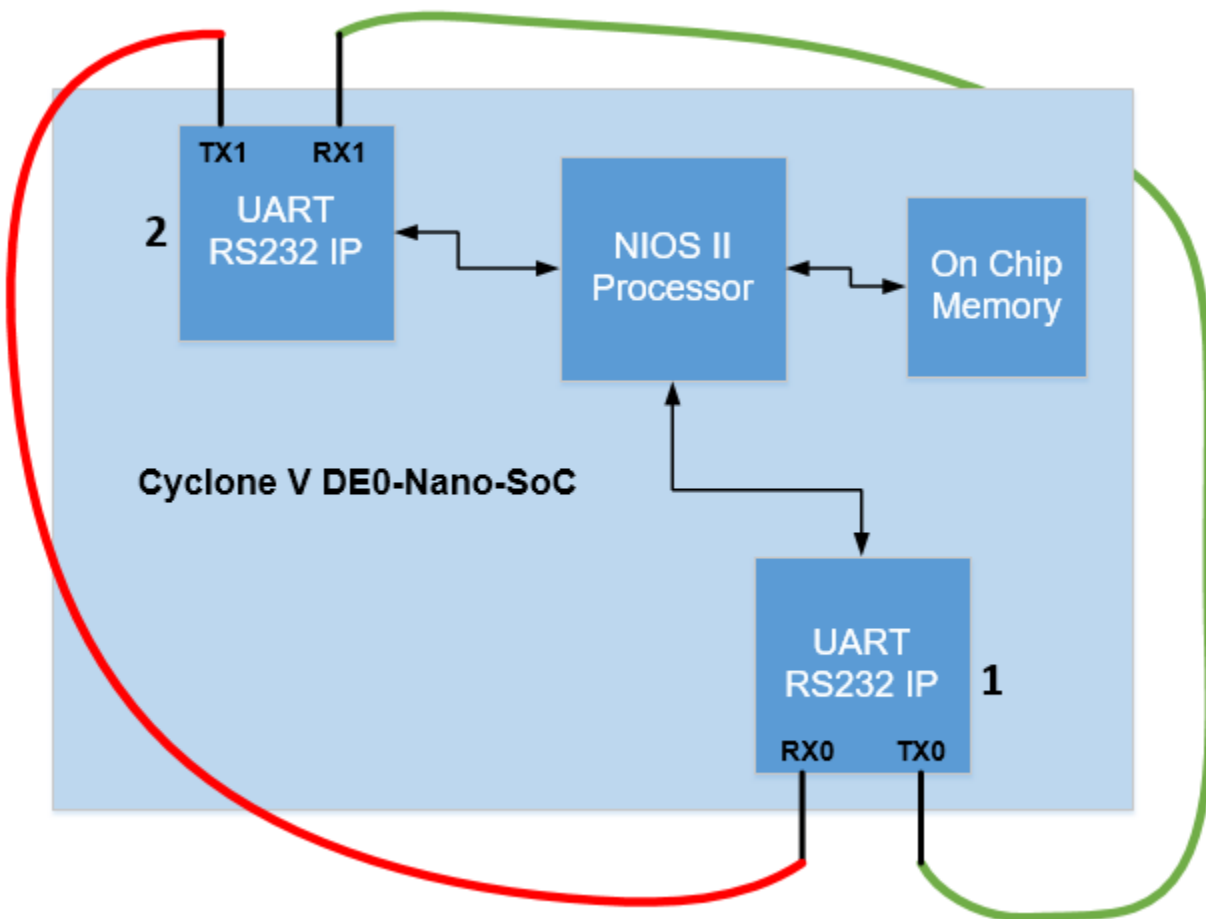
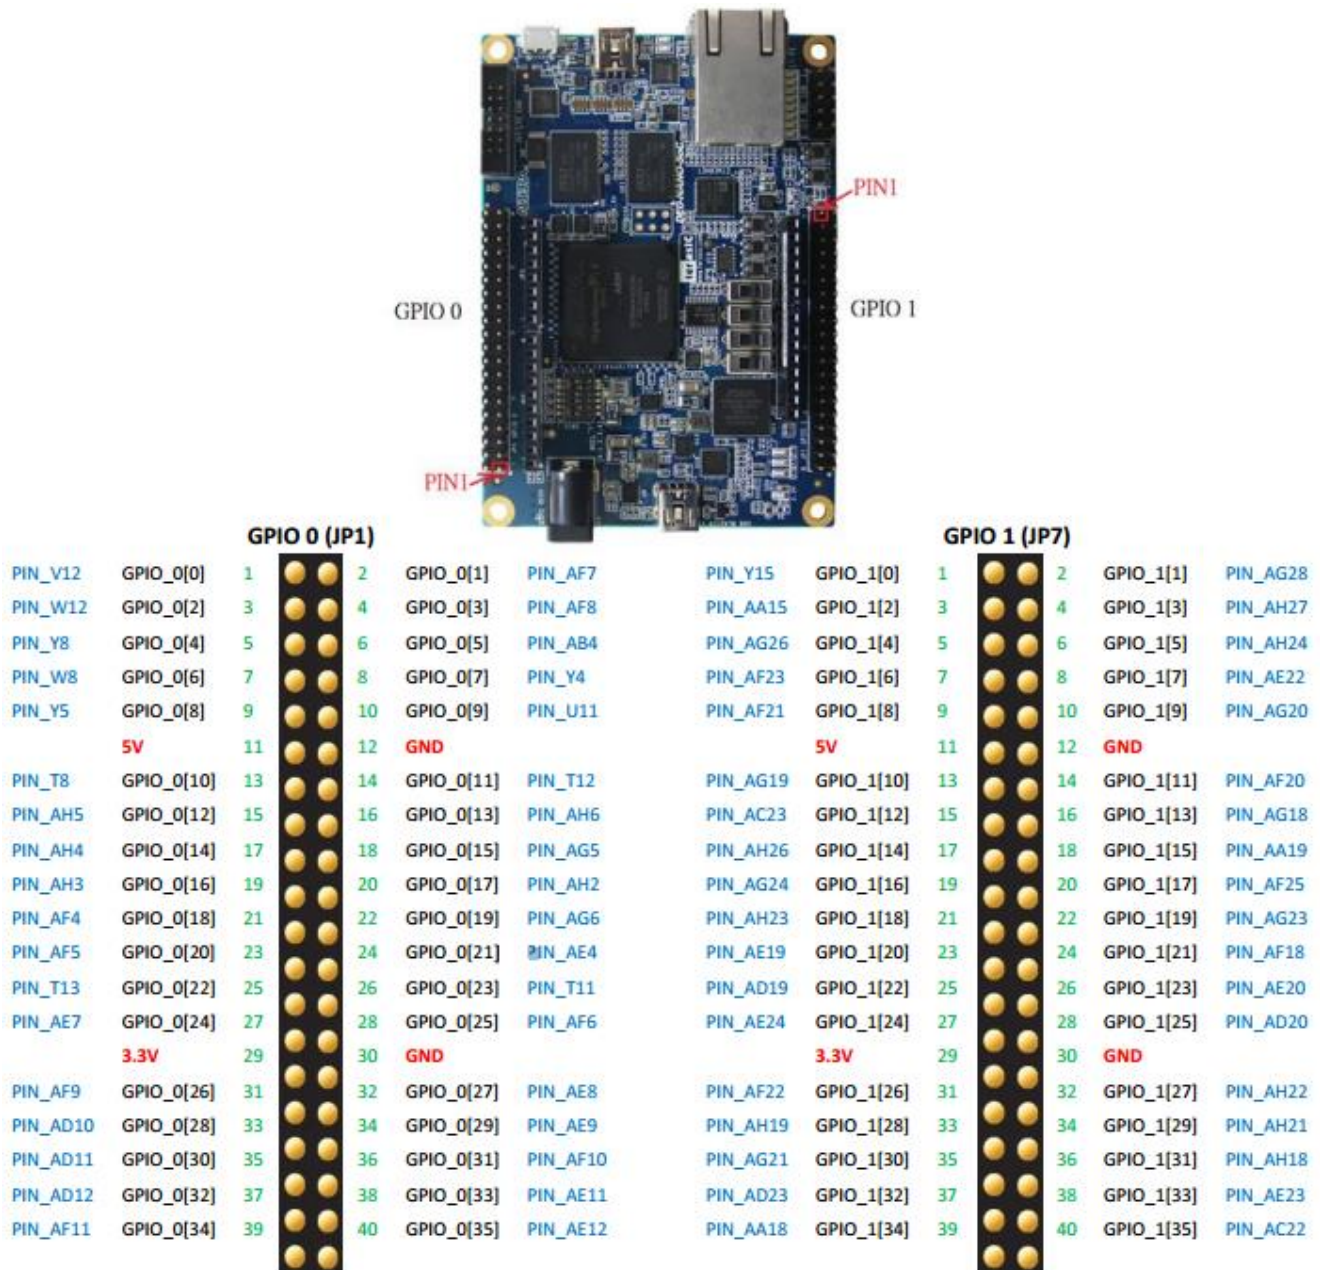

Figure 1: UART RS232 Design Diagram
Figure 2: CV DE0-NANO-SOC GPIO Pin Arrangement (originally from here)
Figure 1 shows the various IP blocks within the design example. Details of the connection between each IP blocks can be found in the included Qsys file for this design example. From Figure 1, three main steps can be summarized:
- 4- The colored lines in Figure 1 represent the jumper wires (female) that connect GPIO 0 Pin 1 with GPIO 1 Pin 1. Kindly refer to Cyclone V DE0-Nano-SOC user guide (Page 26). Figure 3-18 from this document can be seen in Figure 2.
After you build the UART_RXTX application, you can download the .elf file. Please make sure your FPGA is already configured with the uart.sof file, check Figure 2. Once the application runs, you will notice few messages come out from NIOS II eclipse console. These messages to show the correct reception of characters from UART 0 TX0 to UART 1 RX1, as seen in Figure 5.